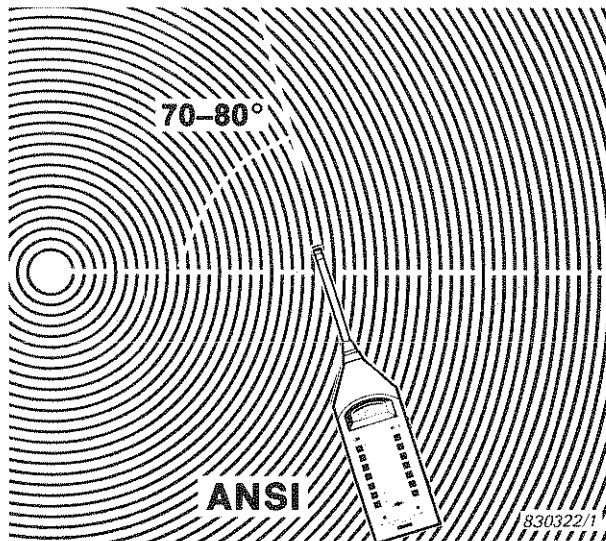

Fig. 8.3. Free-field measurements according to ANSI recommendations
- Under ideal free-field conditions, you can obtain the best results by pointing the sound level meter as shown in Fig. 8.3.